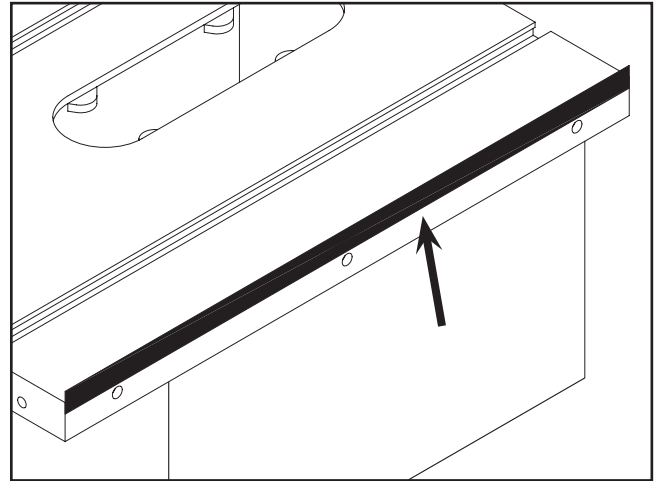

Figure 25. Masking tape location for adjusting the extension wing down.
- If either extension wing tilts up, loosen it and place a strip of masking tape along the top edge of the table (**Figure 25**).